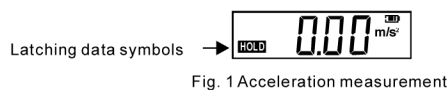

Fig. 1 Acceleration measurement
2. Press startup measurement key "ON/TEST" to start up. The meter is then in the state of measuring acceleration, as figure 1 demonstrates.